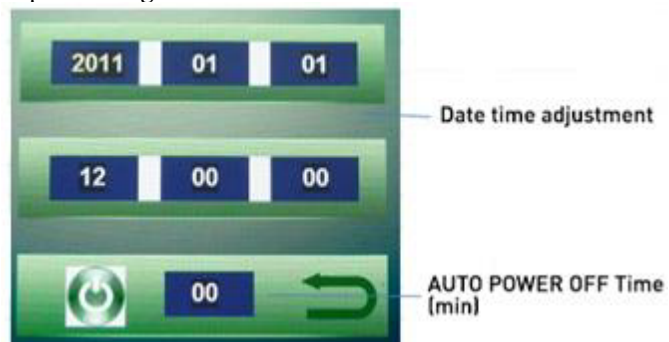

Figure 8
11. Adjust the date and the time and the AUTO POWER OFF Time as show in the below picture. **Fig. 8**